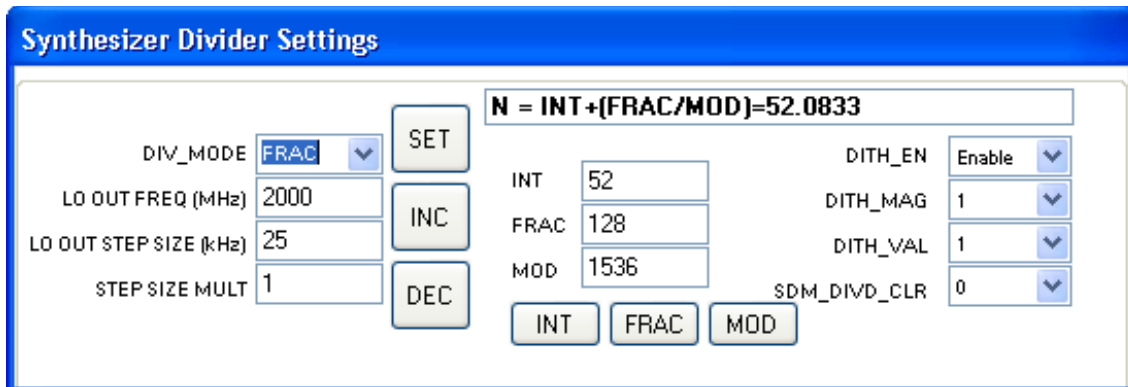

Figure 7. Synthesizer Divider Settings Dialog Box
8. Click **Synthesizer Divider Settings** in the middle of the GUI to open the Synthesizer Divider Settings dialog box as shown in Figure 7.